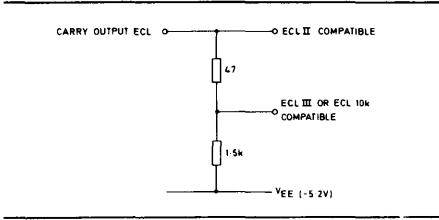

Fig. 3 ECL III/ECL 10000 interfacing
4. The FCL carry output is compatible with ECL II throughout the temperature range but can be made compatible with ECL III using the simple interface shown in Fig. 3.